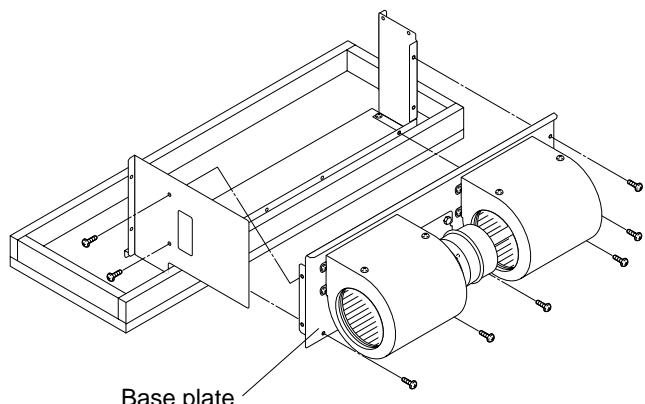

Fig. 4
(1) Remove 8 screws holding the base plate for the fan and fan motor. (Fig. 4)